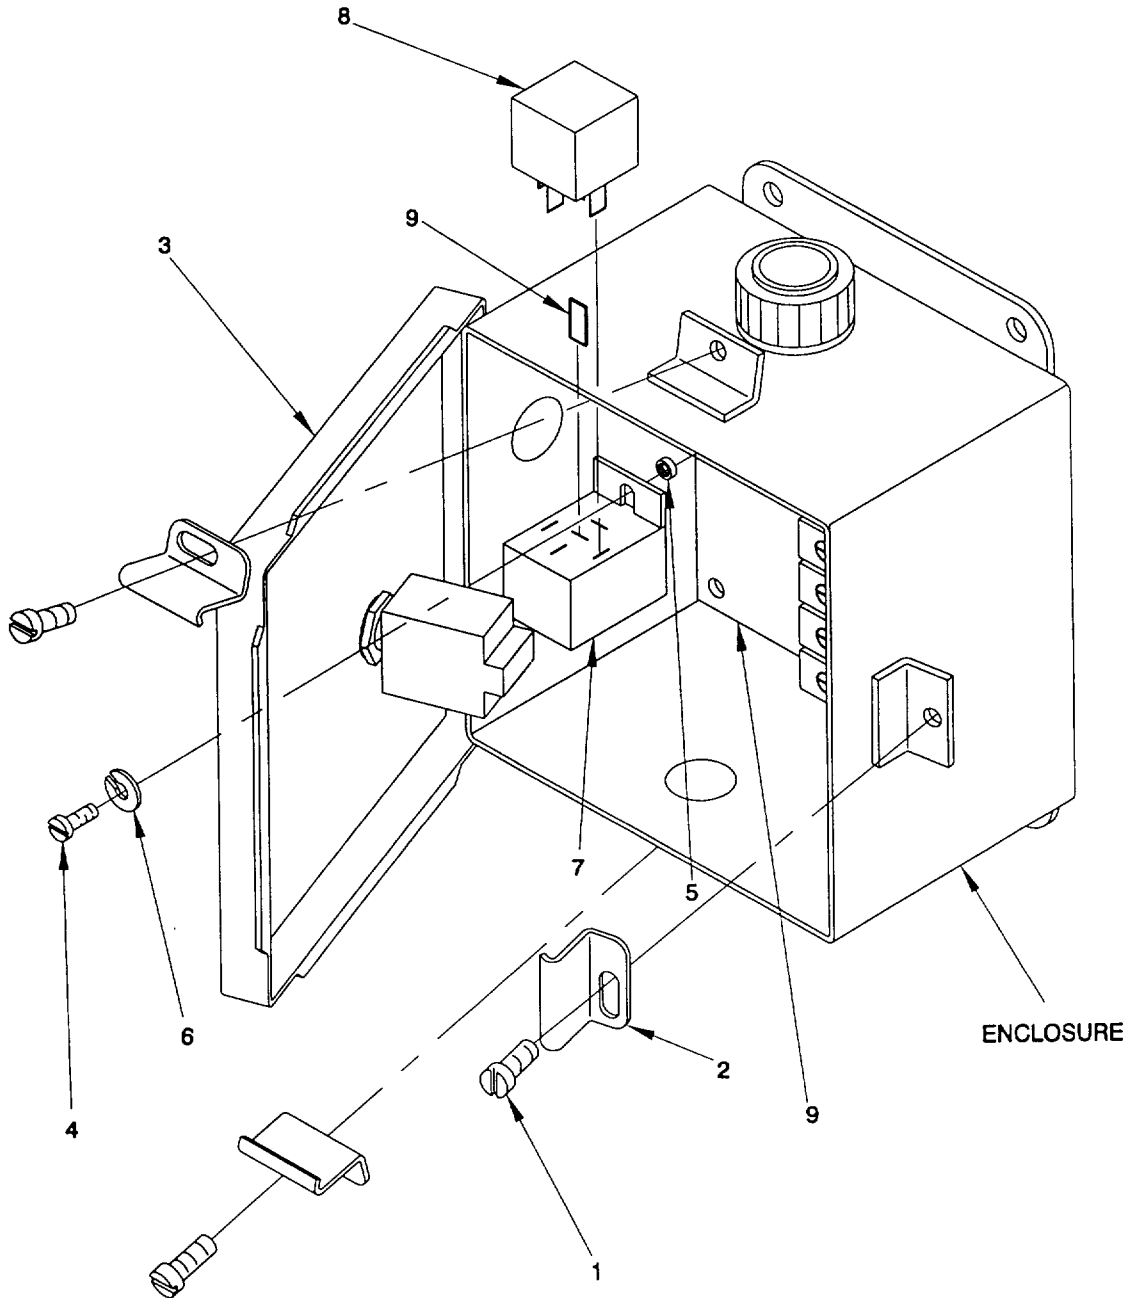

Figure 2-52. Relay, Relay Terminal, Relay Socket, Single Bilge Pump Control Assy. "A7", Remove/install
- a. Remove. (figure 2-52)
- (1) Remove three screws (1) and three latches (2).
- (2) Open door (3) to gain access to electrical components within the enclosure.
- (3) Inspect electrical components for rust, corrosion, deterioration, dirt or condensation, or loose hardware or loose, frayed, or broken electrical wiring connections. Repair is limited to replacement of components, as necessary.
- (4) Tag all electrical connections before disconnecting electrical wiring. Refer to Appendix G, for wiring list and terminal layout.
- (5) Remove screw (4), nut (5) and collect lockwasher (6).
- (6) Remove relay (7) and relay socket (8) from panel. Remove relay terminal (9) from relay (7).
- b. Install. (figure 2-52)
- (1) Apply antiseize compound to all mounting screws for relay terminal and socket. Install relay terminal (9) to relay (7).
- (2) Install relay socket (8) and relay (7) to panel.
- (3) Secure relay socket to panel with screw (4), lockwasher (6) and nut (5).